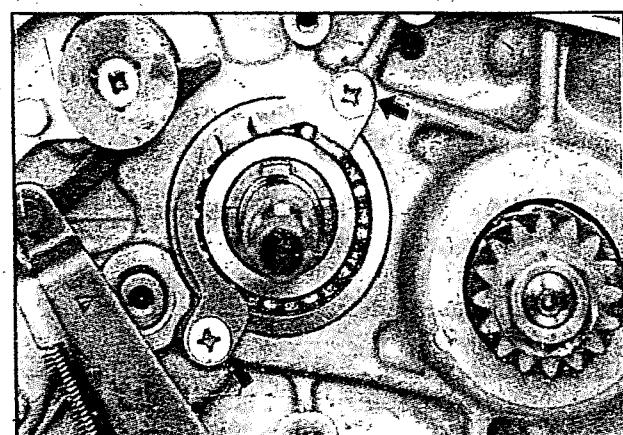

Fig 3.26
- Remove the two screws of the bearing retainer by using the impact driver (fig 3.26)